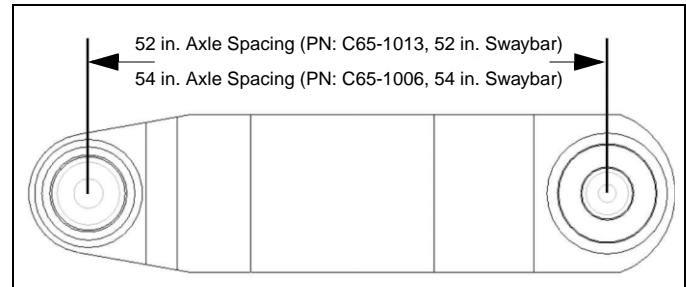

Figure 17-25
- Ensure that you have the correct swaybars. See Figure 17-25. Also refer to "Parts Required For One-Piece Swaybar Retrofit" on page 24 and 26.